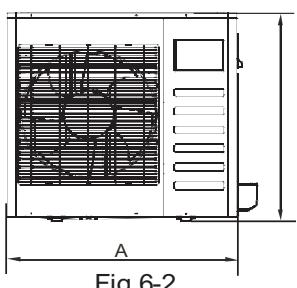

Fig.6-2
- If possible, please remove the obstacles nearby to prevent the performance from being impeded by too little of air circulation. Refer to Fig. 6-2.